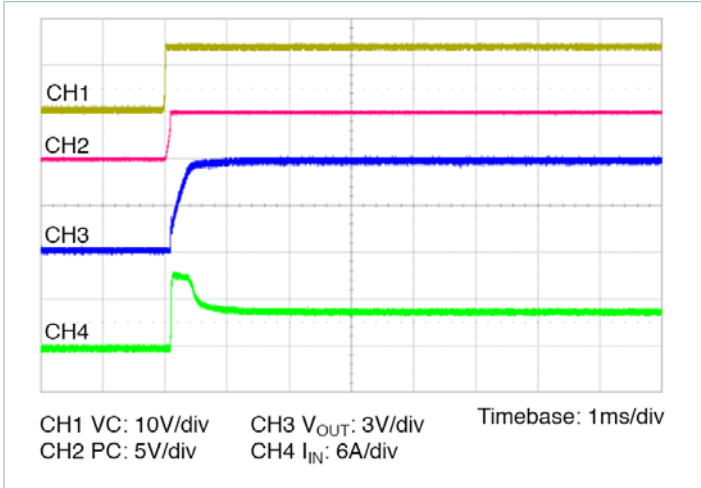

Figure 14 — Start up from application of VC;  $V_{IN}$  pre-applied  $C_{OUT} = 4000\mu$ F
- Stand-alone operation (VC applied after  $V_{IN}$ ): In this case the VTM output will begin to rise upon the application of the VC voltage (See Figure 14). The Adaptive Soft Start Circuit may vary the output rate of rise in order to limit the inrush current to its maximum level. When starting into high capacitance, or a short, the output current will be limited for a maximum of  $120\mu sec$ . After this period, the Adaptive Soft Start Circuit will time out and the VTM module may shut down. No restart will be attempted until VC is re-applied or PC is toggled. The maximum output capacitance is limited to  $4000\mu F$  in this mode of operation to ensure a successful start.